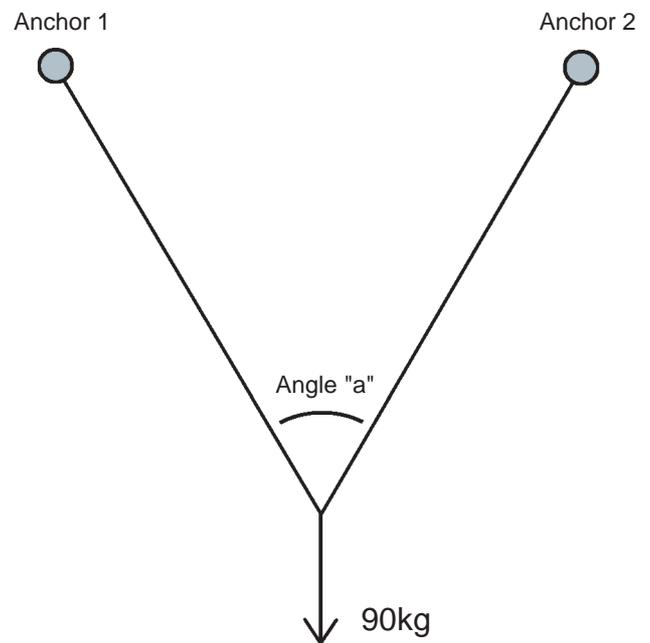

Figure 10.7a The loading effect of anchor angles
- When two or more points are linked **the angle at the main tie-in/attachment point must not exceed 60° otherwise the forces induced will be considerably larger than the load being applied.** See figure 10.7a.